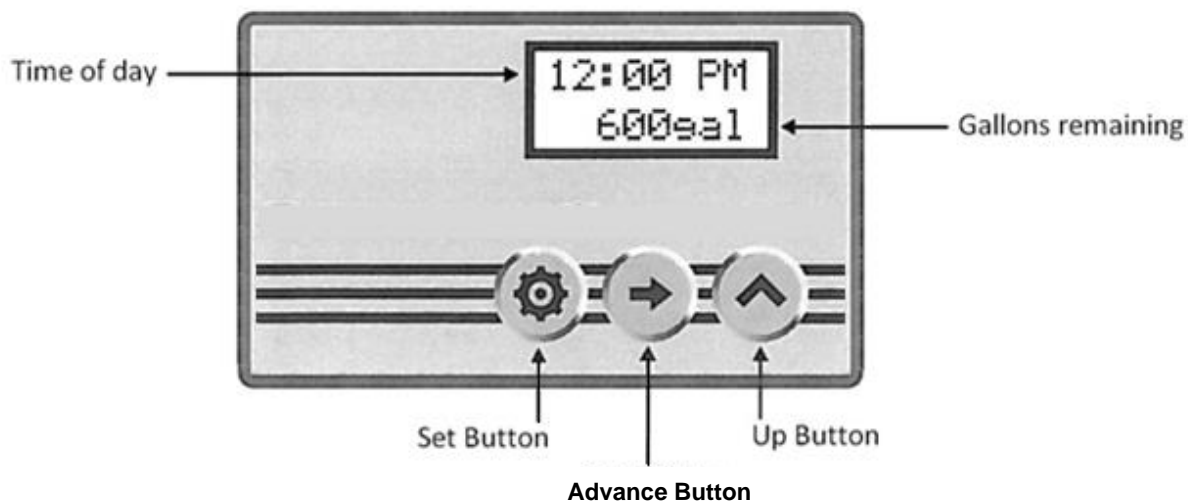

FIGURE 4: Front of Electronic Meter Timer
- STEP 12:** Plug the transformer into an un-switched electrical outlet and attach the power cord into the control valve. Then press and hold down the center "ADVANCE" button until "GO TO BW" appears on the screen (see Fig. 4, page 8). Wait until the valve reaches the backwash position before going to STEP 13 (a countdown timer will appear on the display).
STEP 20: Set the current time of day on the timer (note AM and PM) (see Fig. 4, page 8).